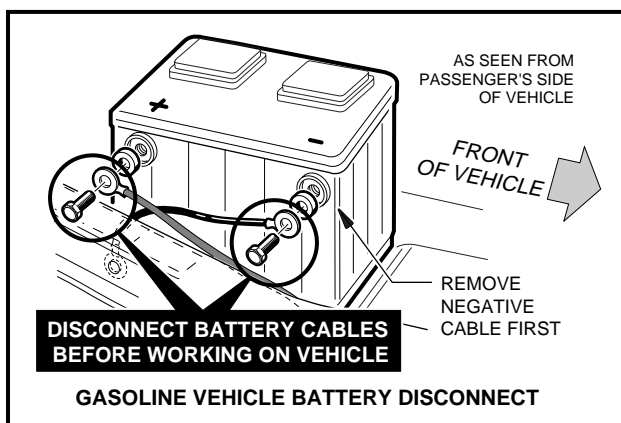

Figure 1-1 Gasoline Vehicle
- Disconnect battery cables, negative cable (-) first (Figure 1-1, Page 1-2).